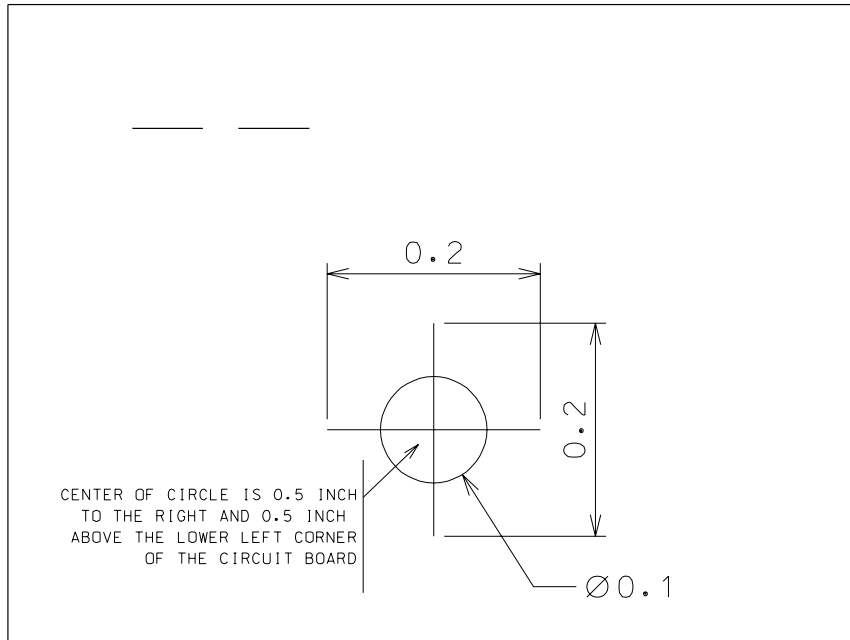

Figure P7-7 Dimensions of the first circuit board hole symbol
STEP 4: Draw two lines through the center of the circle, as shown in Figure P7-7.
- STEP 6:** Type two underscores (“__”) in the Text Editor box (to create a Data Field) and place the text string above and to the left of the circle, as shown in the top, left corner of Figure P7-7.